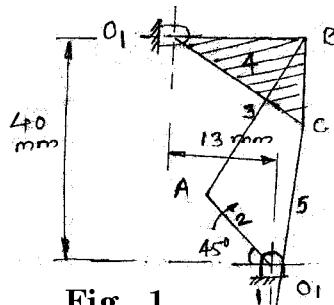

Fig. 1
- 2 Fig. 1 shows a sewing needle bar mechanism. The 15